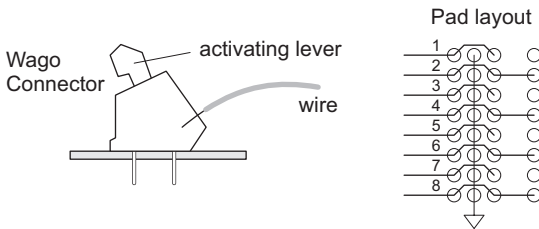

Figure B-3. Wago Connector and BL1000 Connector Pad Layout
1. Wago brand spring-clamp connectors, eight positions wide, that can accept up to #18 wire. Various Wago parts can be used, differing as to whether they have actuating handles and whether the spacing is 2.5 mm or 0.100". The board can accept either 2.5 mm or 0.100 inches. If there is no actuating handle, a small screwdriver or a special tool can be used to release or insert a wire. Figure B-3 illustrates the pad layout and the use of a Wago connector.
2. Standard (Berg) computer connectors: two rows of pins on 0.100" centers. In this case, alternate pins are connected to ground, as shown in Figure B-3.